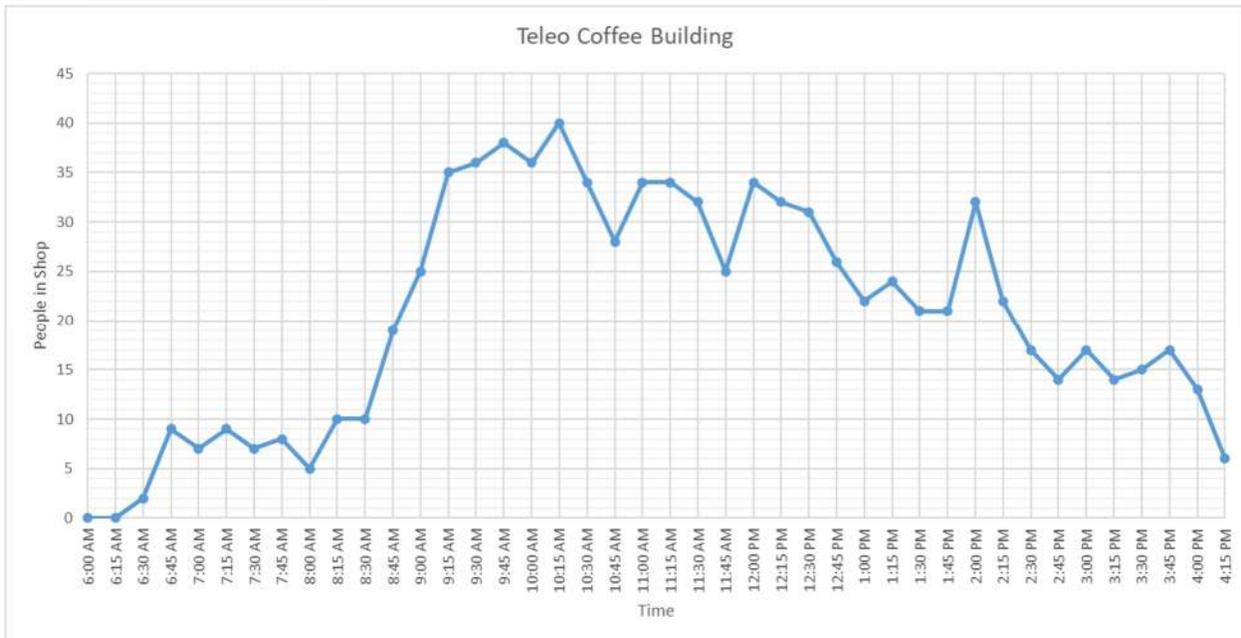
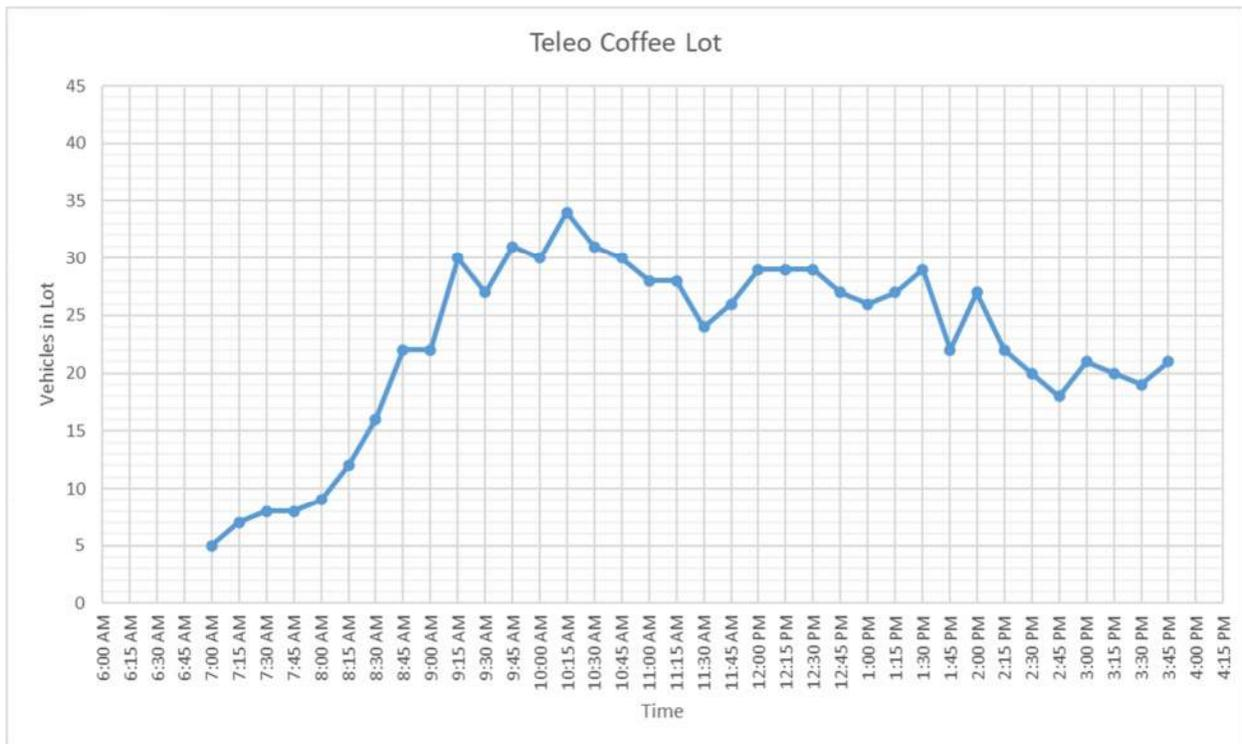

Figure 7 - Teleo Coffee building occupancy.
Figure 8 - Lot occupancy at Teleo Coffee.
TERRA analyzed the Teleo Coffee building occupancy throughout the day and created a graph of persons inside the shop over time. TERRA also analyzed the parking lot occupancy throughout during the vehicle counts. It was assumed that zero (0) people were in the building at 6:00 AM, and using video from the traffic counters, five (5) vehicles were counted in the lot starting at 7:00 AM. Graphs for the building and parking lot occupancy are shown in Figure 7 and Figure 8.
The proposed coffee shop coffee shop has nine (9) parking spaces, one (1) of which is an American with Disabilities Act (ADA) space. Though 30 vehicles theoretically entered the site during the AM peak hour of traffic, 27 would also be expected to exit during the same hour. The number of pass-by trips is based on the profile of patrons at the Teleo Coffee shop. As mentioned previously in the report, from Figure 7, it appears that between 6:45 AM to 8:30 AM, there is a high turnover of patrons with few patrons lingering for longer periods in the shop. The person trips in and out of the building are shown in Table 9. From 6:45 AM to 8:30 AM, the number of people in and out of the building is high compared to the net change in the occupants of the building, consistent with a high turnover rate.